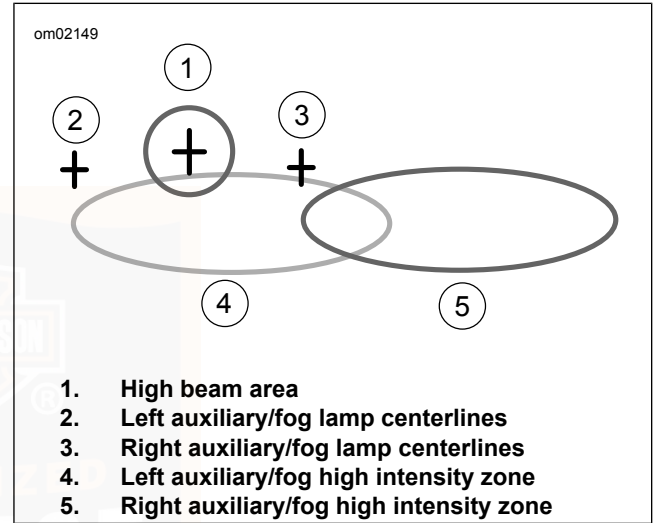
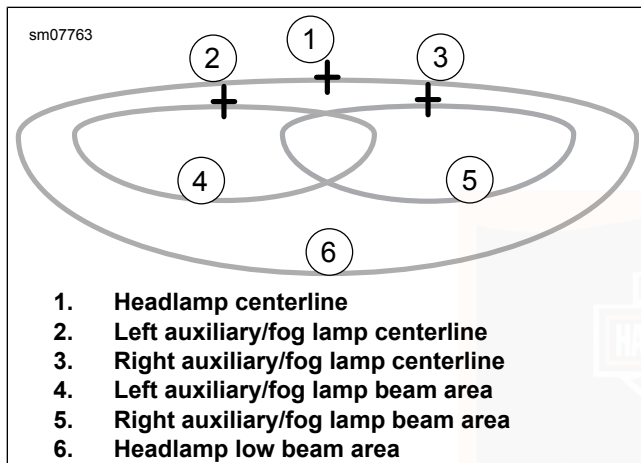

Figure 95. Headlamp Pattern: Quartz Halogen Type
Figure 96. Headlamp Pattern: LED Type with Auxiliary/Fog Lamps
- a. **Horizontal:** Turn the horizontal adjusting screw (1) to adjust light beam left and right.
- b. **Vertical:** Turn the vertical adjusting screw (2) to adjust light beam up and down.
- c. See Figure 95 or Figure 96 . Adjust headlamp light beam.
4. See Figure 95 or Figure 96. Mark the auxiliary/fog lamp horizontal and vertical centerlines (2, 3) on the wall.
Figure 95 shows a pattern for motorcycles in countries that drive in the right lane. Flip the graphic horizontally for countries that drive in the left lane.
- a. **Quartz halogen:** Adjust the left auxiliary/fog lamp so the entire high intensity zone (4) is below and to the right of the left auxiliary/fog lamp centerlines as shown in Figure 95.
- b. **LED:** Adjust the left auxiliary/fog lamp so the entire high intensity zone (4) is below the centerline as shown in Figure 96.